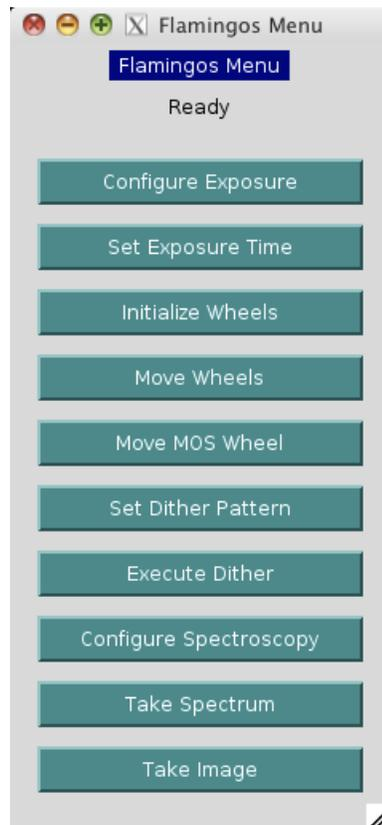

Figure 2: Command menu on the *mayall-2/3* desktop.
4. *Open the shortcuts menu.* Many of the common FLAMINGOS commands which do not require arguments may now be run from a shortcuts menu on the *mayall-2* or *mayall-3* desktop. Double-click on the FLAMINGOS icon to bring up the menu (Figure 2). In the following, the appropriate button will be noted in square brackets along with the command line input.